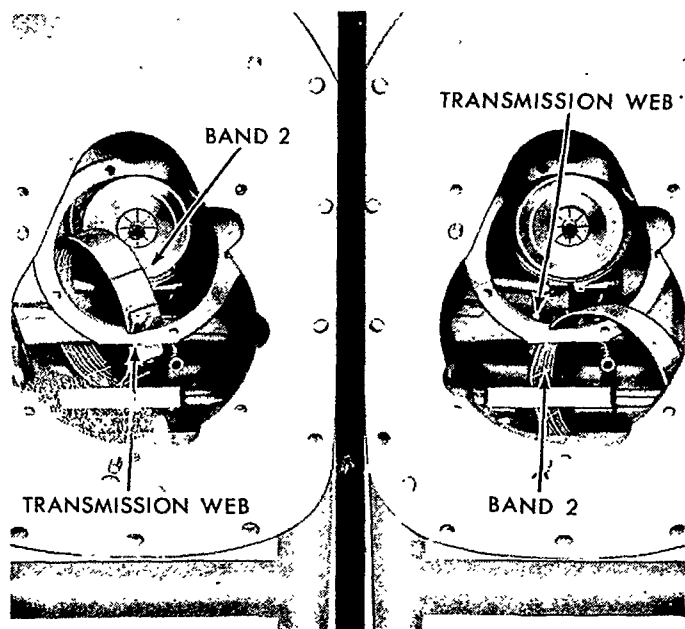

Figure 97
4. Loosen band 2 adjusting screw and remove band 2 and the struts. Rotate the band around the transmission case web as shown in Figure 97, for removal.